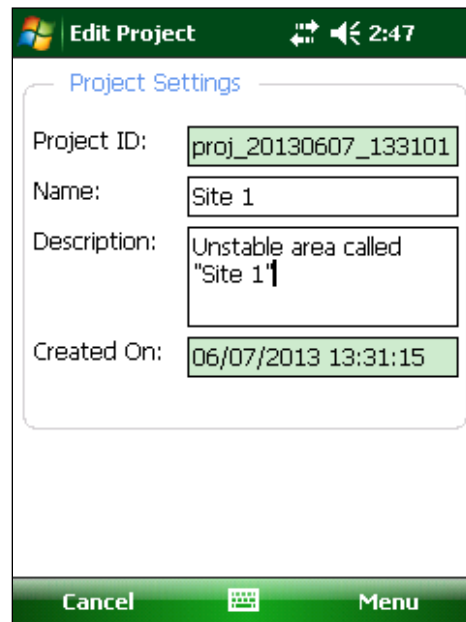

Figure 12 - Project Settings
- 4) The Projects Settings dialog will be displayed (Figure 12).